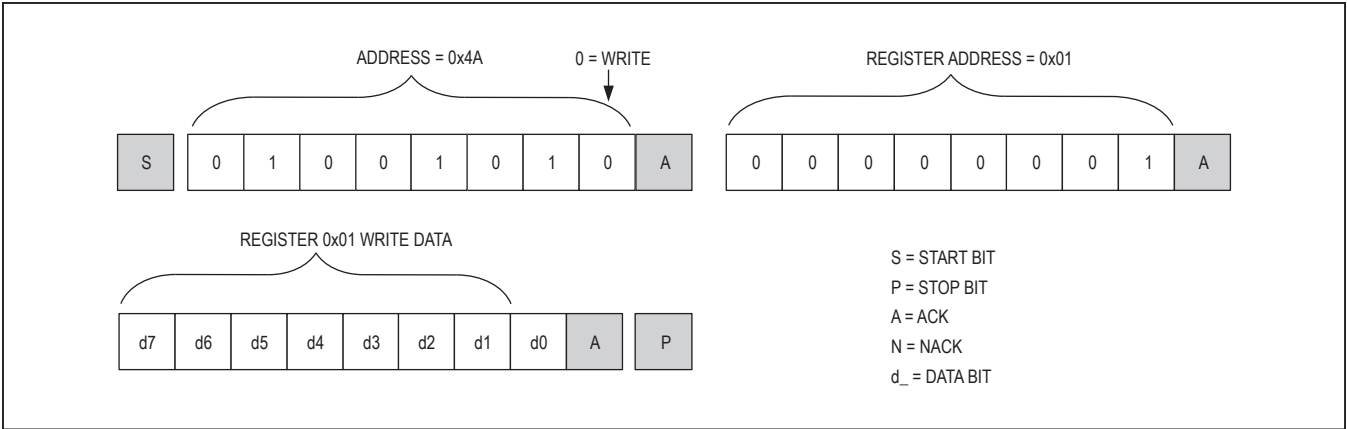
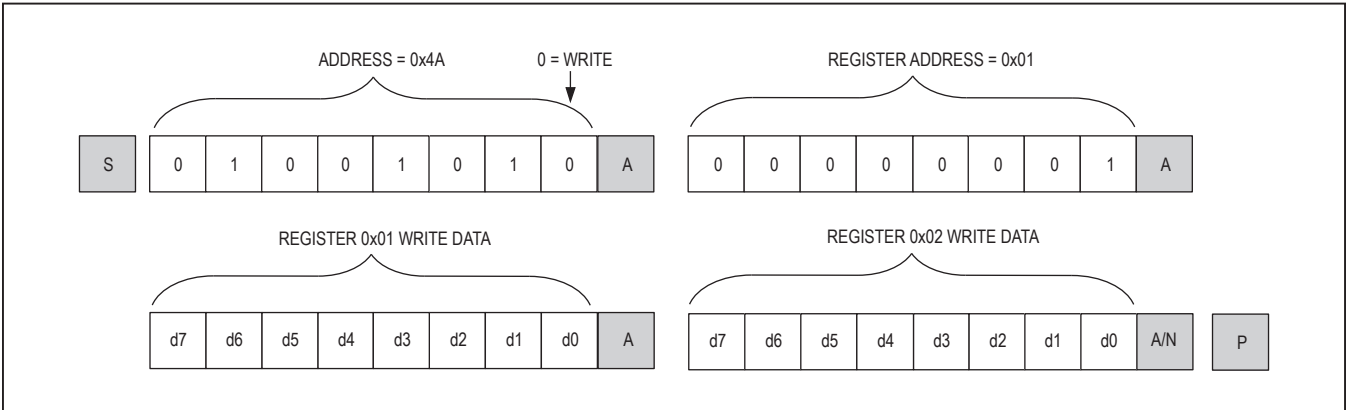

Figure 10. Format for I2C Write
Figure 11. Format for Writing to Multiple Registers
A write to the MAX14616/MAX14616A comprise the transmission of the slave address with the R/W bit set to zero, followed by at least 1 byte of information. The first byte of information is the register address or command byte. The register address determines which register of the MAX14616/MAX14616A are to be written by the next byte, if received. If a STOP (P) condition is detected after the register address is received, then the MAX14616/MAX14616A take no further action beyond storing the register address. Any bytes received after the register address are data bytes. The first data byte goes into the register selected by the register address and subsequent data bytes go into subsequent registers (Figure 10). If multiple data bytes are transmitted before a STOP condition, these bytes are stored in subsequent registers because the register addresses auto-increments (Figure 11).